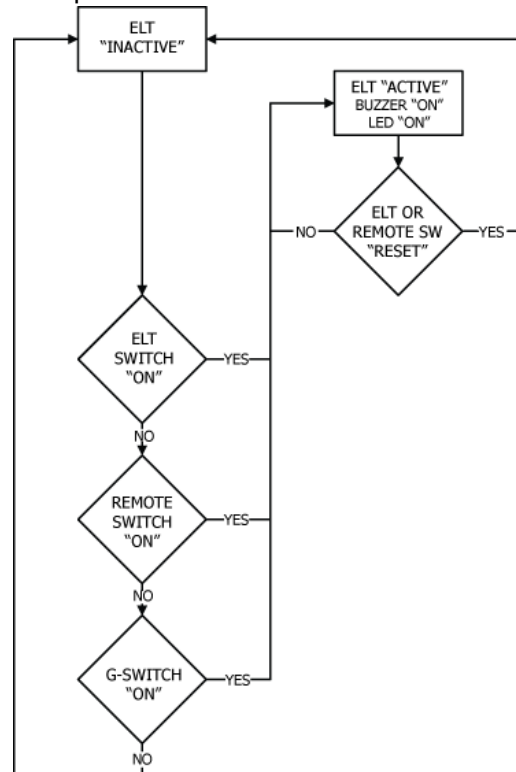

Figure 8 ELT Operational Flow Diagram
- 1) See Figure 8 ELT Operational Flow Diagram.